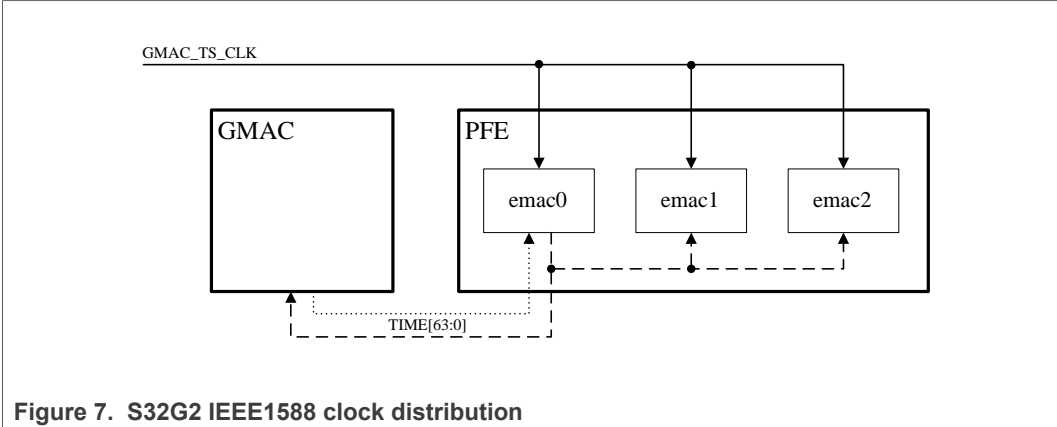

Figure 7. S32G2 IEEE1588 clock distribution
The S32G platform allows multiple clock configurations, as depicted in Figure 7.
See Figure 7, full line.
1. EMAC0 is the time source and feeds GMAC, EMAC1 and EMAC2. See Figure 7, dashed line.
2. Dotted line on Figure 7 represents a limited sharing. GMAC is the time source and feeds EMAC0. EMAC1 and EMAC2 cannot use external clock in this case.
Device tree determines configuration of external time sources in `nxp,pfeng-emaac-ts-ext-modes` property of PFE device node. The listed `PFE_PHYIF_EMAC_` are configured to use external time source. For example, Figure 7 dotted line, following setting represent the limited time sharing: